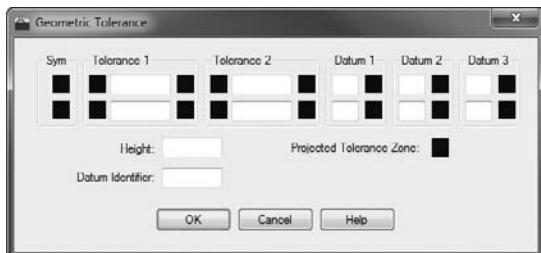

FIGURE 12.16 The Geometric Tolerance dialog box
1. Click the Tolerance button from the expanded Dimensions panel on the Annotate tab to open the Geometric Tolerance dialog box (see Figure 12.16).